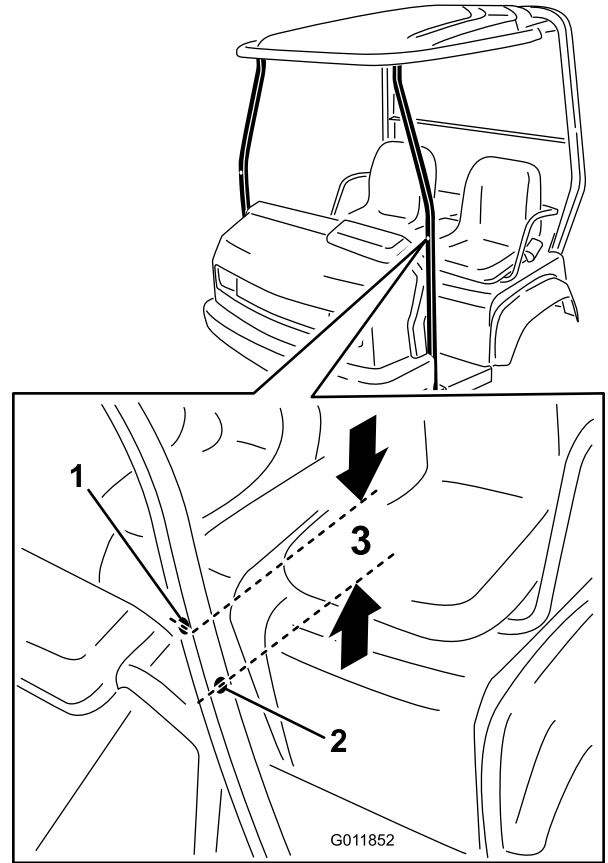

Figure 10
1. Locate the windshield mounting holes in the front canopy support tubes (Figure 10).
2. On the side of the tube that you are going to mount the mirror, measure down 2.54 cm (1 inch) from the windshield mounting hole and make a mark in the center of the tube (Figure 10).
3. At the marked location, drill a 8.3 mm (5/16 inch) diameter hole through both walls of the tube (Figure 10).